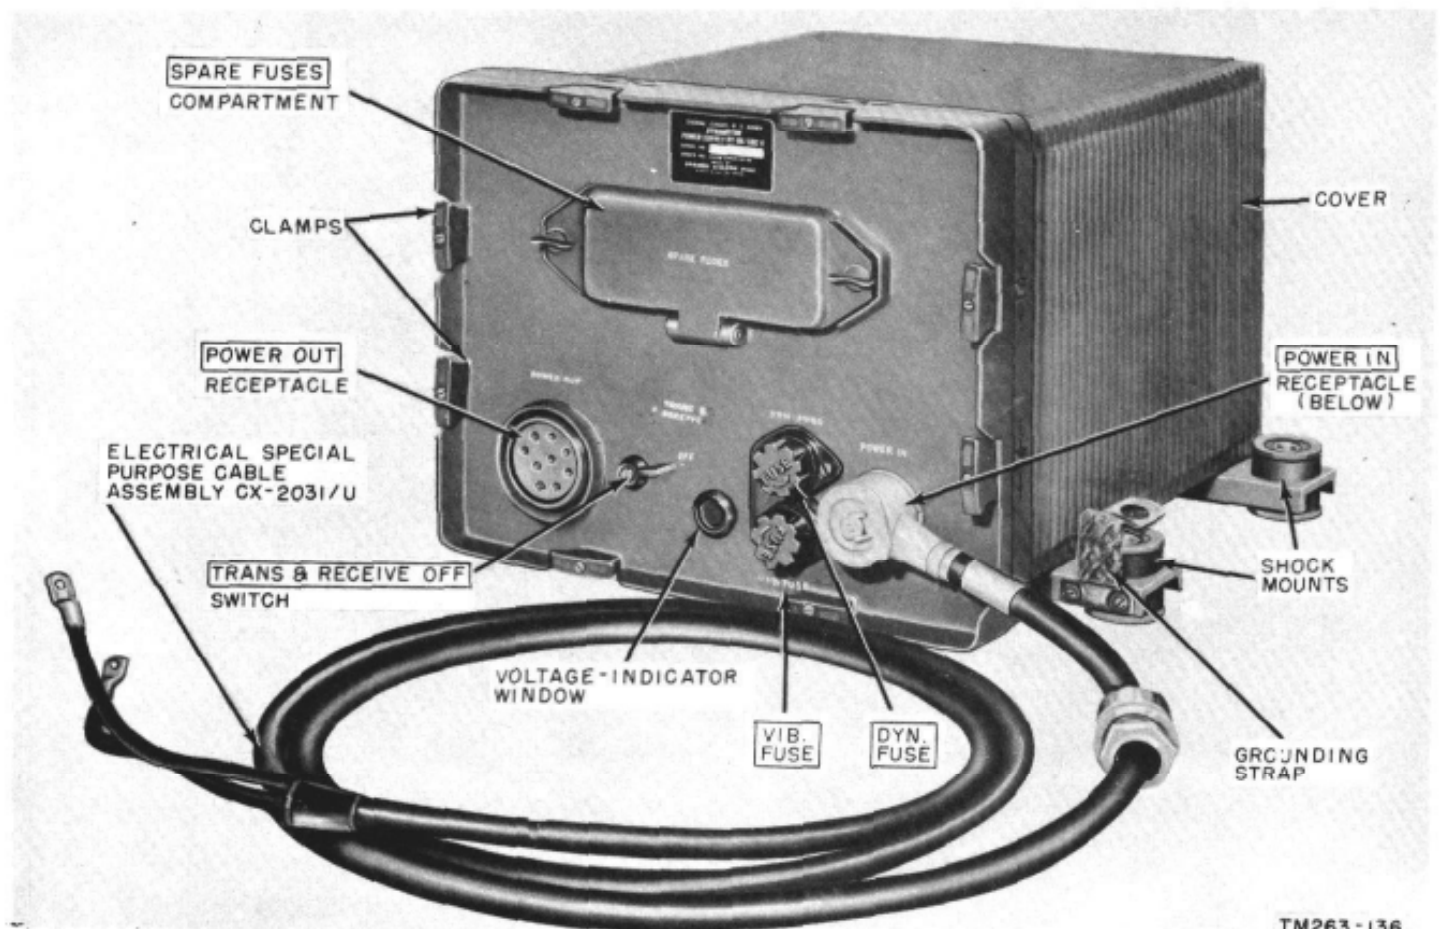

Figure 11. Dynamotor-Power Supply DY-88/GRC-9.
12. Description of Dynamotor-Power Supply DY-88/GRC-9 (fig. 11)